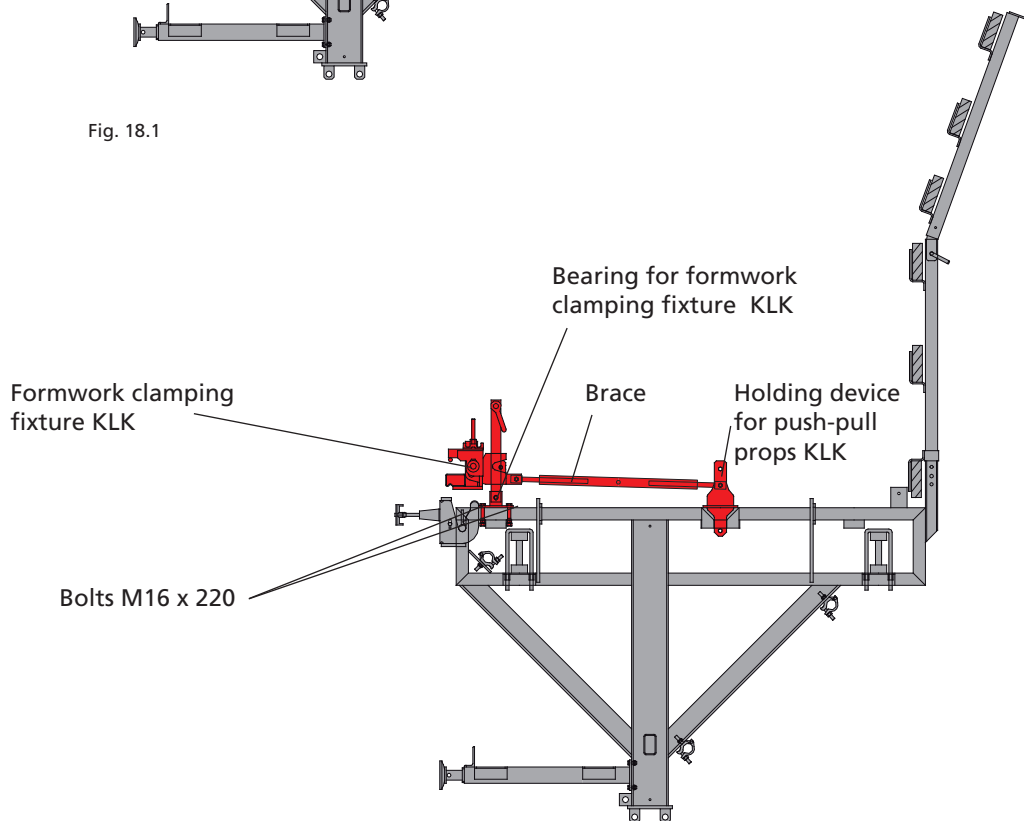

Fig. 18.2
The clamping fixture KLK is mounted to the KLK bracket by using two (2) bolts M16 x 220 (Fig. 18.2).